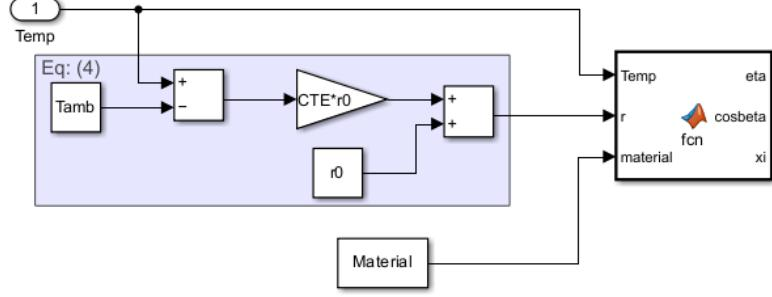

Figure 10: Thermal Expansion calculation
Then implement equation (4) using the SIMULINK blocks. Then create a MATLAB Function block and copy-paste the provided code to calculate E_x and G_{yz} from equation (5) – (9). Figure 10 shows the completed view.